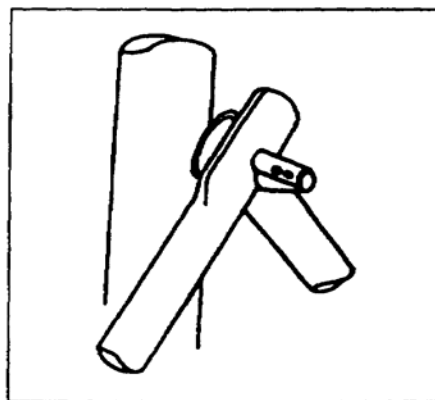
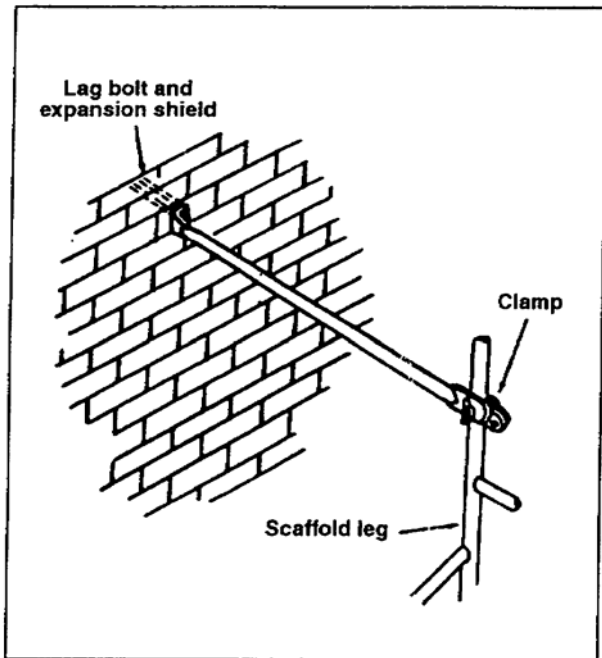

Figure 4-16. Rapid-locking end fitting
Figure 4-17. Building tie-in
(1) Patented steel scaffold. Erect patented steel scaffolds by placing the first and second uprights on footing plates and insert diagonal braces, thus completing the first set of tiers. The diagonal braces have rapid locking end fittings (Figure 4-16) that permit rapid locking into position. The first-tier set is set at ground level on steel bases. Erect the second-tier set by placing the third and fourth uprights on footing plates and insert diagonal braces. Lock the second set to the first set with diagonal braces. Elevate scaffolds by placing a second tier on the first tier, and lock the bottom of each upright to the top of the lower tier. Build the scaffold as high as desired, but tie a high scaffold into the main structure with building tie-ins (Figure 4-17, page 4-12).